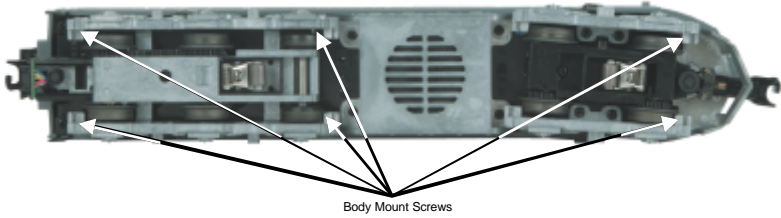

Figure 3
1. Unscrew the body mount screws as shown in Figure 3 and remove the body shell from the chassis.
Remove shell by removing body mount screw shown in figure 3 on page 9. Once the body shell has been removed, disconnect the bulb harness from the socket on the constant voltage circuit and replace the bulb.